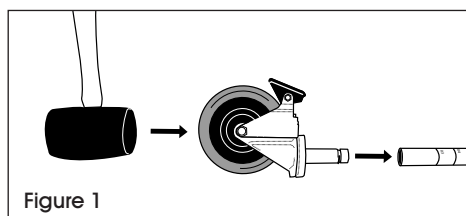

Figure 1
1. Make sure post is positioned as shown. (See Figure 1)
1. Engage the wheel brakes to keep casters from rolling during assembly. Use a rubber mallet to tap caster stems into posts. (See Figure 1)